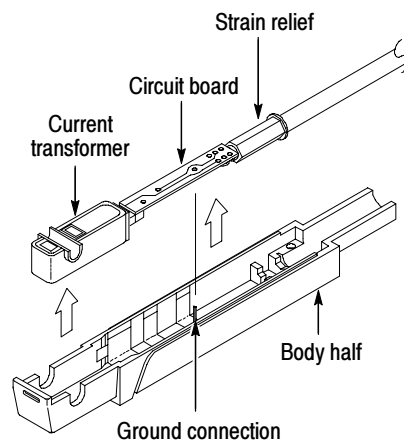

Figure 16: Removing the current transformer of the A6302XL probe
1. To replace the current transformer, lift the transformer out of the probe as shown in Figure 16, and pull it out of the circuit board socket.